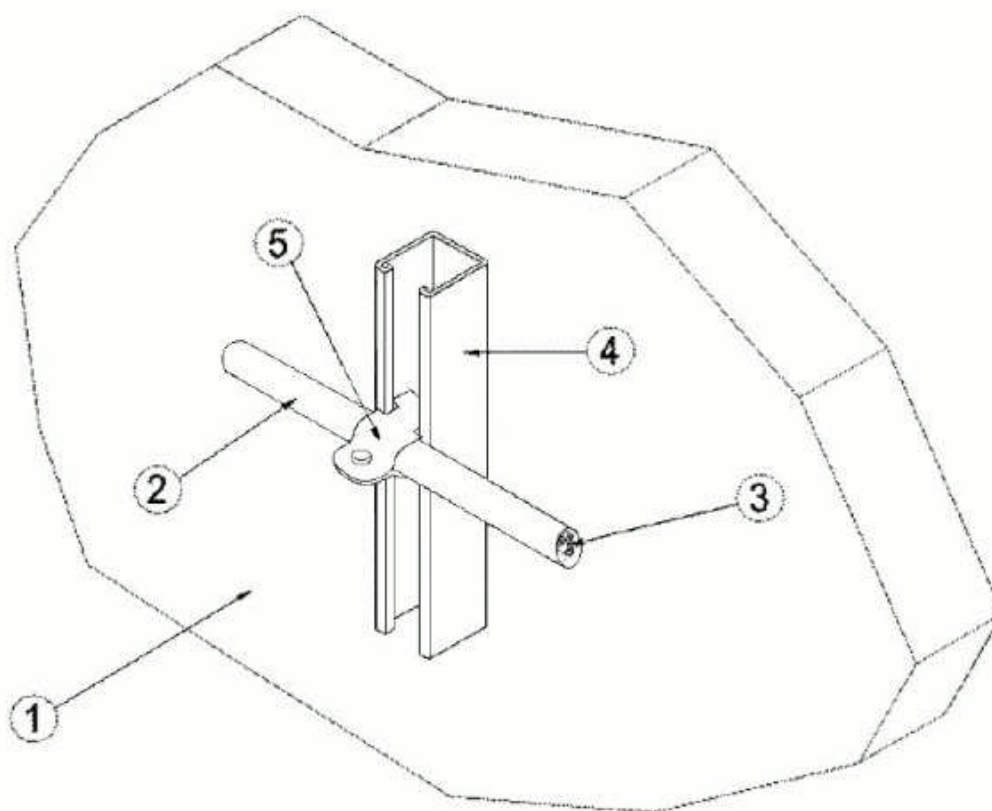

Fig. 1
4. **Supports** — (Figure 1) — Min 12 gauge, by 1-1/2 in. wide or 1-5/8 in wide, painted or unpainted, slotted steel channels with hemmed flange edges. Channel bottom with or without holes. Lengths of slotted steel channels 5 ft and less shall be secured to the wall or floor with a min of two 1/4 in. diameter (or larger) by 2-1/4 in. min long concrete screws, or 1/4 in. diameter (or larger) by 1-3/4 in. long min steel masonry anchors. One screw or anchor to be located at each end of the slotted steel channel. Lengths of slotted steel channel in excess of 5 ft require a min of three screws or anchors, one at each end of the channel and one centrally located within the length of the channel. The supports shall be spaced a maximum of 5 ft. OC. When installing cable(s) in vertical runs, the maximum distance of cable within raceway shall be 36 ft. between terminating points.